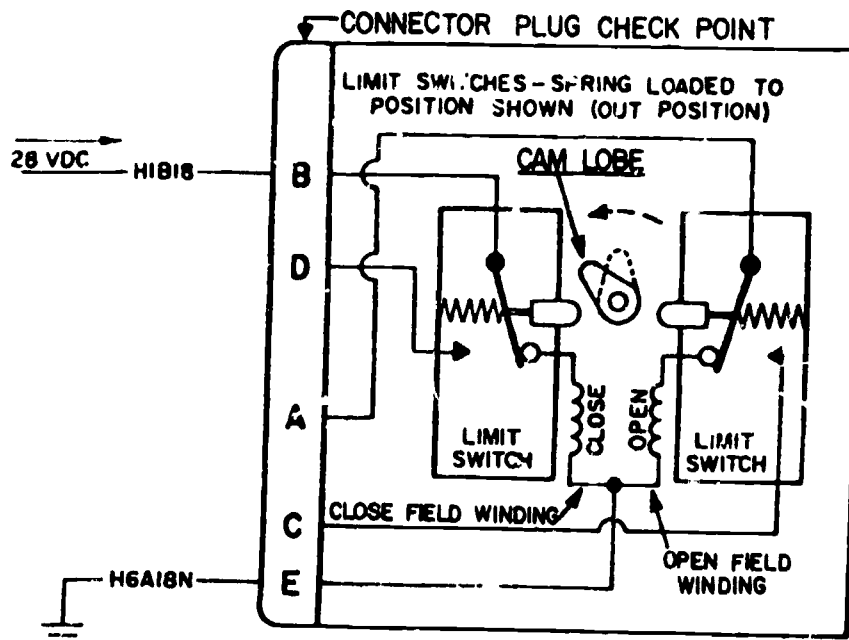

Figure 3.
2. Refer to figure 3 and locate wire H1B18. If we were to send 28 volts of power to check point B of the connector plug of the motor, it would go through the limit switch, continue across the close field winding
of the motor, and out of the connector plug at check point E to the ground. As the voltage energizes the close field winding of the motor, the motor will start rotating. This, in turn, will rotate the valve shaft and the valve butterfly, which is connected to one end of the shaft, will start to close. Connected to the other end of the shaft is the cam lobe that will also start to rotate. As the cam lobe leaves the neutral position (indicated by the arrow above the cam in figure 3) you will note that the cam is turning toward the limit switch that is on the close side of the motor. The cam lobe, that is indicated by the dotted line, is the position in which the cam was previously positioned.